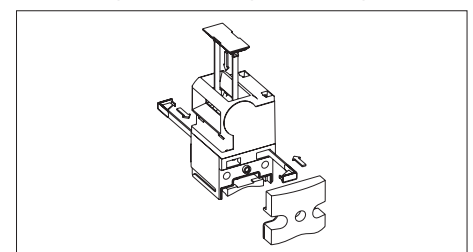

Fig. 2: Fitting the locking pins and the slot cover
3. Fit the enclosed locking pins for protection against twisting (Fig. 2). It is then not possible to change the actuating direction again.